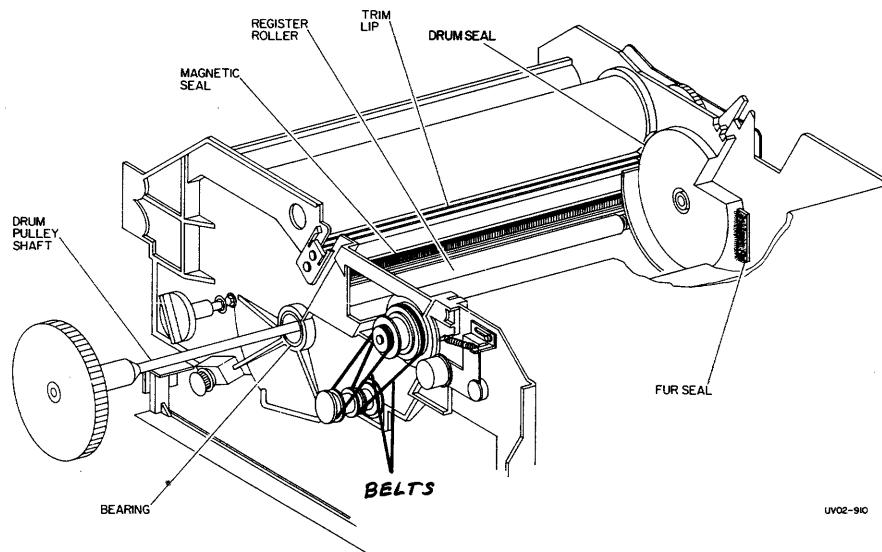

Figure 3-2. Drum Module Components
3. Inspect the Drum surface. If print quality defects are caused by a damaged Drum, install a new Drum (3-16). If there are finger prints or other surface defects, clean ONLY the affected area with Polyurethane Pad moistened with Film Remover (US), Step 2 Wash (RX).
5. While the Drum is removed clean the components shown in Figure 3-2.: